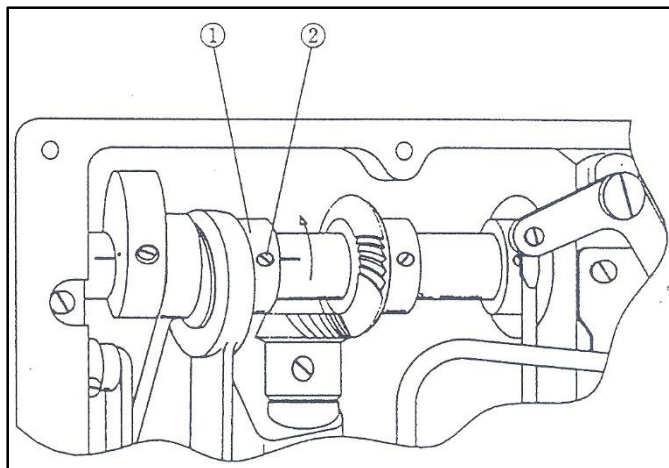

Figure 7.13
When the feed timing is correct the jig should be moved just after the needle has left the material. To obtain this timing remove the plate holding the presser foot lift solenoid and locate the feed cam (1) as shown in Fig. 7.13. After releasing screw (2) rotate the cam clockwise to advance the feed, or rotate the cam counter clockwise to retard the feed. Tighten screw (2) when finished.